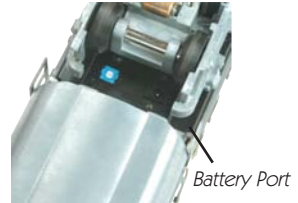

Figure 8- Battery Port
- Use M.T.H.'s battery recharger (sold separately) that plugs into the wall outlet and a special port under the engine to recharge the battery overnight without leaving it on the track. (See figure 8)